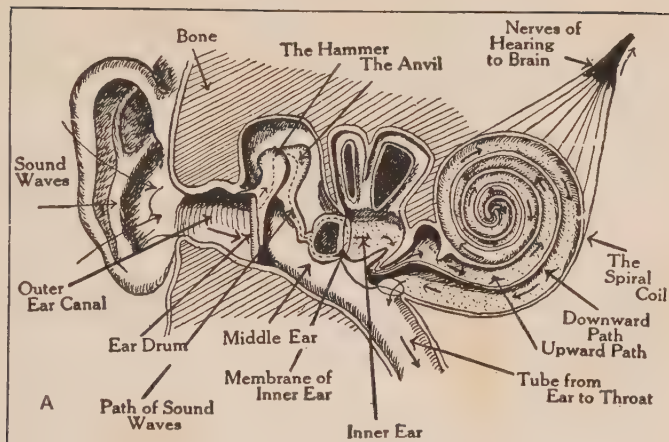

FIGURE 43A.—STRUCTURE OF THE HUMAN EAR.
72. How Sounds Travel. — Sounds are caused, then, by the vibration or rapid moving back and forth of some substance. The vibrations of the substance cause the air molecules to vibrate in ever widening circles or waves as when you throw a stone into still water. These air vibrations reach the ear and enter it. The ear drum (Fig. 43a) in turn vibrates, sending a sensation over a nerve to the brain, where the vibration is interpreted as that of a horn, piano, gun explosion, human voice, etc.
83. The Human Ear. — The ear is a wonderful contrivance for receiving and interpreting, with the aid of the brain, the meaning of air vibrations. The fleshy outer portion or external ear is so constructed that it catches and centers all air vibrations reaching it. Study Figure 43a and answer all questions upon it.